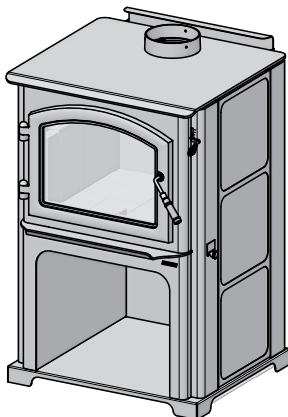

Figure 24.4
1. Remove solid panel from side by lifting up and pulling away from appliance (use a flat tool to pry from bottom if needed) (Figure 24.4).
2. Remove tile frame from side by lifting up and pulling away from appliance (Figure 24.4 reference solid side panel removal).